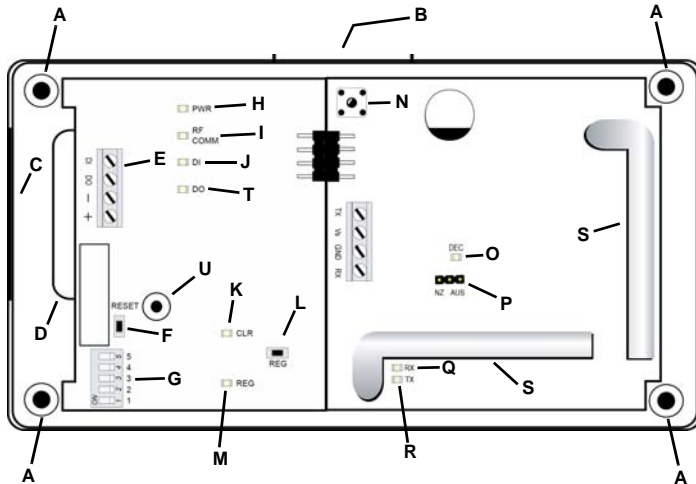
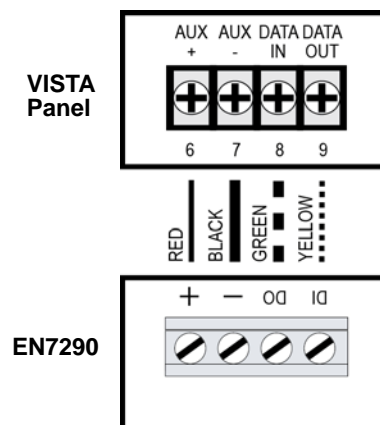
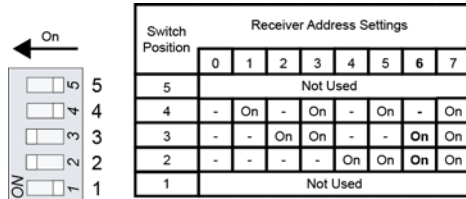

Figure 3 EN7290 receiver/interface internal components
Figure 4 EN7290 receiver/interface to VISTA panel cabling
Figure 5 Device address DIP switch settings (6 shown)
1. Use a small screwdriver to press the housing release tab; separate the housing (figure 3, B).
2. Place a selection jumper on the appropriate frequency band selection pins (figure 3, P).
1. Referring to Figure 4, connect one end of a length of cabling to the EN7290 receiver/interface positive (+) screw terminal (figure 3, E); connect the other end to screw terminal 6 on the VISTA control panel.
3. Connect one end of a length of cabling to the EN7290 receiver/interface data out (DO) screw terminal; connect the other end to screw terminal 8 on the VISTA control panel.
4. Connect one end of a length of cabling to the EN7290 receiver/interface data in (DI) screw terminal; connect the other end to screw terminal 9 on the VISTA control panel.
6. Referencing Figure 5, set the device address DIP switches to an unused address (figure 3, G).
15. Toggle the housing tamper switch to ensure the receiver/interface is ready to enter registration mode (figure 3, N).
16. Referring to Figure 3, "EN7290 receiver/interface internal components" on page 2, press the registration button (figure 3, L).
19. When all devices have been registered, press and release the housing tamper switch (or replace the housing). You can also press the reset button to exit registration mode (figure 3, F).